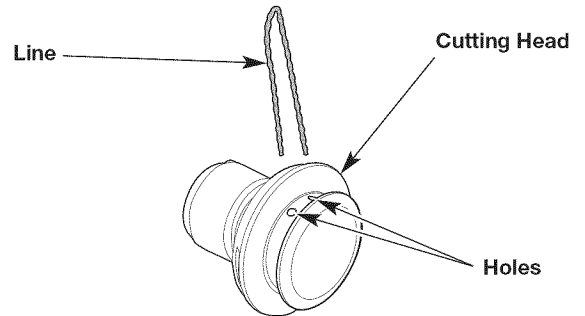
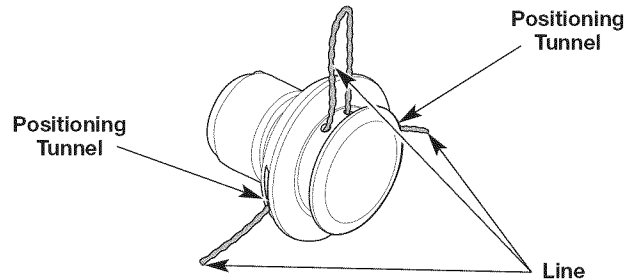

Fig. 11
Fig. 12
3. Insert the ends of the line through the large circular holes in the side of the cutting head (Fig. 11). Push the line through the holes until both ends protrude from the positioning tunnels (Fig. 12).